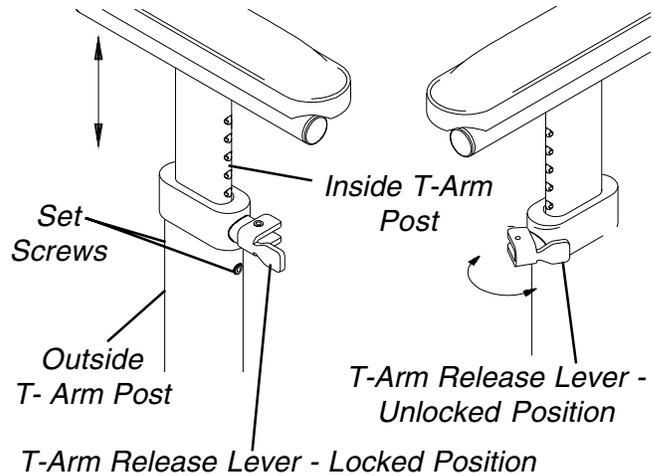

FIGURE 3 - ADJUSTING T-ARM HEIGHT
**Adjusting T-Arm Height (FIGURE 3)**
2. Slide the T-arm to one (1) of:
- A. **Low Height T-Arms** - Nine (9) positions.
- B. **High Height T-Arms** - Seven (7) positions.
*NOTE: If the inside T-arm post does not slide up and down in the outside T-arm post as desired, perform one (1) of the following:*